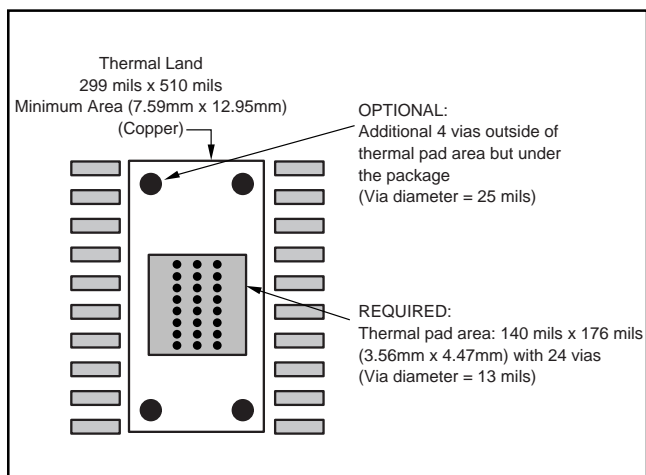

FIGURE 16. 20-Pin DWP PowerPAD PCB Etch and Via Pattern.
2. Prepare the PCB with a top-side etch pattern, as shown in Figure 16. There should be etch for the leads as well as etch for the thermal land.
3. Place the recommended number of plated-through holes (or thermal vias) in the area of the thermal pad. These holes should be 13 mils in diameter. They are kept small so that solder wicking through the holes is not a problem during reflow. The minimum recommended number of holes for the SO-20 PowerPAD package is 24, as shown in Figure 16.
4. It is recommended, but not required, to place a small number of additional holes under the package and outside the thermal pad area. These holes provide an additional heat path between the copper land and the ground plane. They may be larger because they are not in the area to be soldered, so wicking is not a problem. This is illustrated in Figure 16.